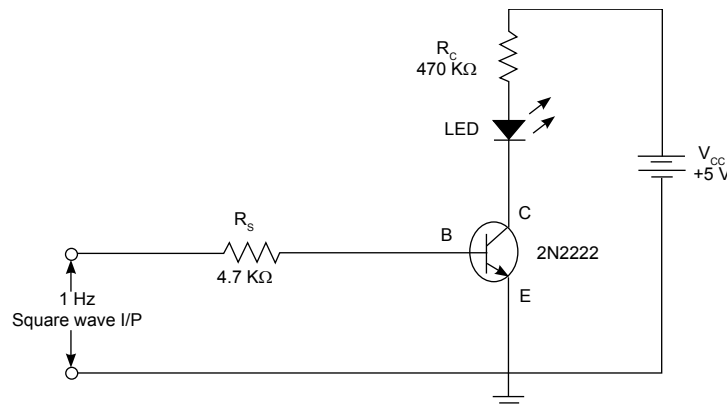

Fig. P21.1: shows the work situation of testing the performance of transistor switch circuit.
1. Connect the circuit as shown in Fig. P21.1.